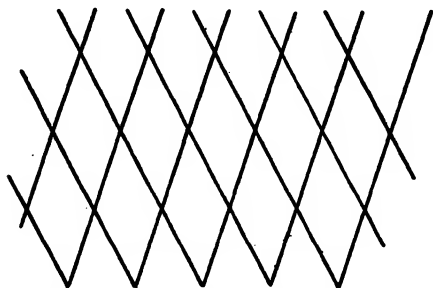

FIG. 12. MAKING PARALLELOGRAMS
V. The children draw sets of crossing parallel lines and so discover parallelograms, Fig. 12. If desired, this can be followed up by a study of the parallelogram and of the rhombus.